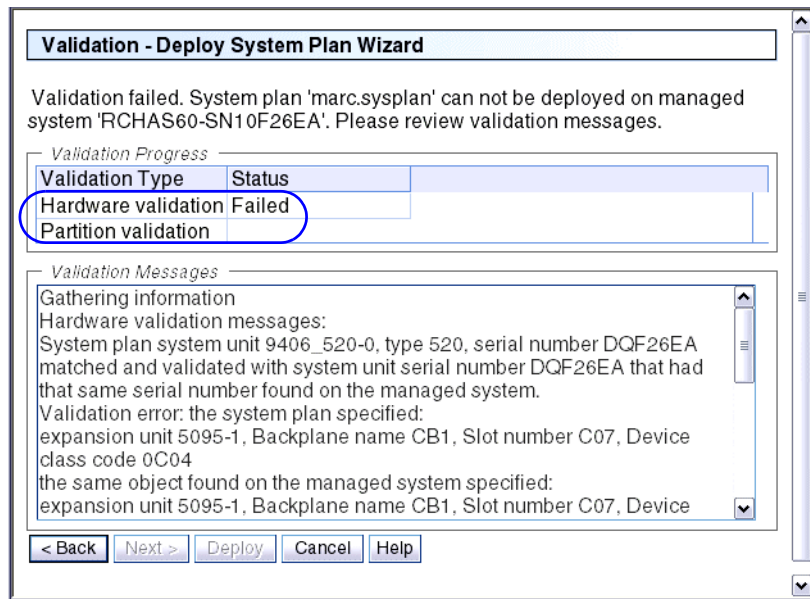

Figure 4-22 Deployment validation summary (hardware failed)
- The first example is related to a system plan that fails to deploy due to hardware errors. Figure 4-22 shows unsuccessful hardware validation.